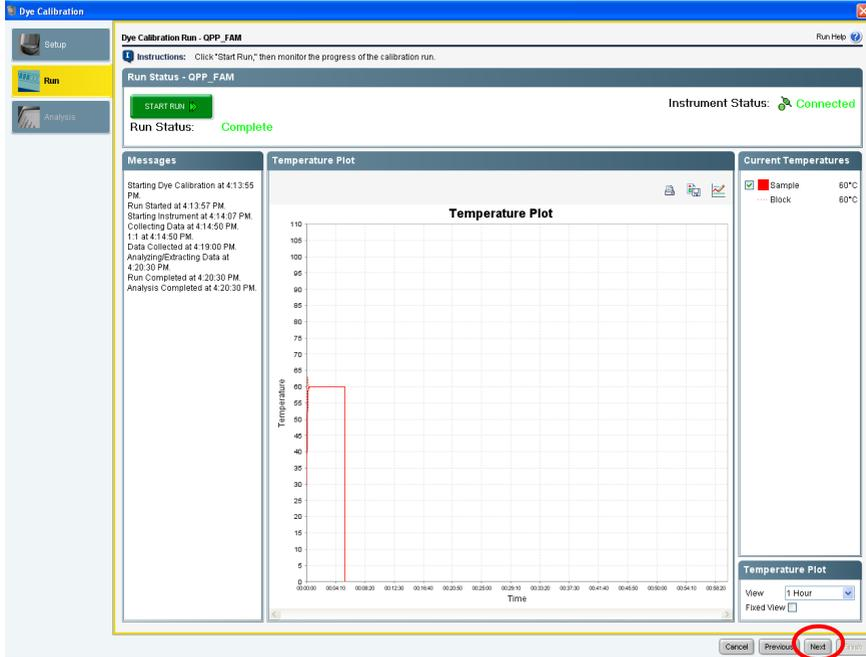

Figure 21. Completed calibration run.
10. After the calibration run has finished, click **Next** (Figure 21).